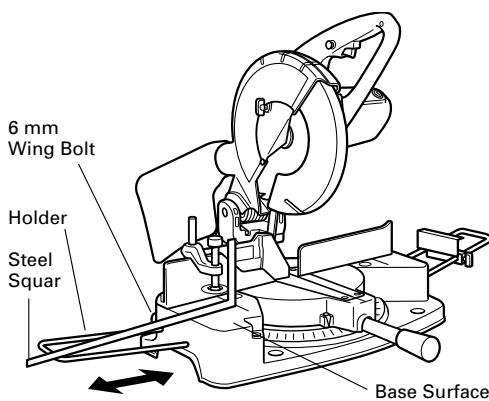

Fig. 12
- (1) As indicated in Fig. 12, use a steel square for aligning the upper edge of the holders with the base surface.
- (2) After aligning, secure the holders with the 6 mm wing bolts.